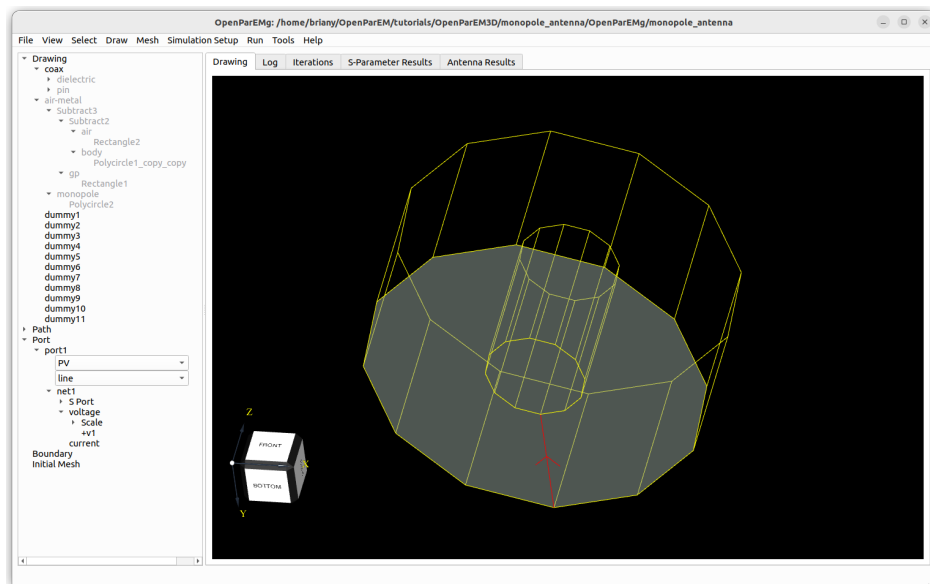

Figure 19: Coaxial port with voltage integration line.
- The final port is shown in Fig. 19